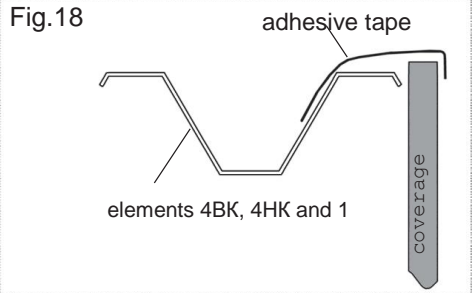

Fig.18
5. Using a knife, even coverage pieces by arcs 4H, 4BK and element 1, then cover the obtained cut-off with adhesive tape in accordance with Fig. 18.